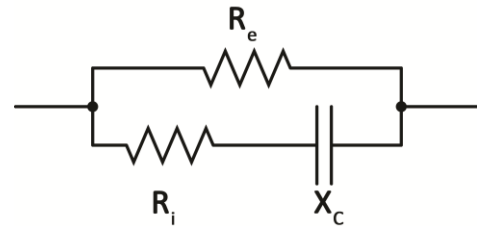

Figure 7 - Circuit model of the body used in multi-frequency analysis
As we have seen, the electrical characteristics of the body can be approximated with an RC circuit. The parallel circuit shown in Fig. 7 is a more accurate representation of the body's circuit, where R_e and R_i represent the resistances of the body's extra- and intracellular water respectively, and capacitance C is due to cell membranes.
- **Q7: Based on Eq. (4), what do you think is the effective resistance and reactance for the circuit in Fig. 7 when a DC potential ($f=0$) is applied? What would they be for very high frequencies ($f=\infty$)?**
- 1) Connect a circuit similar to Fig. 7 to the BIA device in place of the series RC circuit from Fig. 3. Use the following components: $R_{ecw}=470 \Omega$, $R_{icw}=100 \Omega$ and $C=10 \text{ nF}$.
- **Q8: The equivalent resistances for very high and very low frequencies are called R_∞ and R_0 respectively (Fig. 7). Based on your Cole-Cole plot, what are R_∞ and R_0 for your circuit? How does this compare to your answer for Q7?**
- **Q10: Based on the model circuit in Fig. 7, explain why the equivalent resistance and reactance of the body changes as the frequency increases. Would you use high or low frequencies if you wanted to measure extra-cellular water only?**